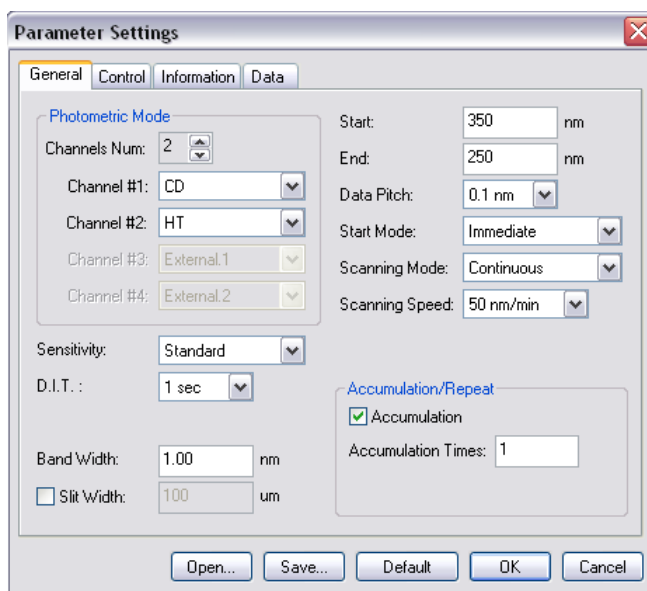

Figure. 4.11 Measurement parameters (CD scale check)
- (1) Start up the [Spectrum Measurement] program.
- (2) Select the [Parameters...]/[General] command from the [Measure] menu, and set the measurement parameters as shown in Fig. 4.11.